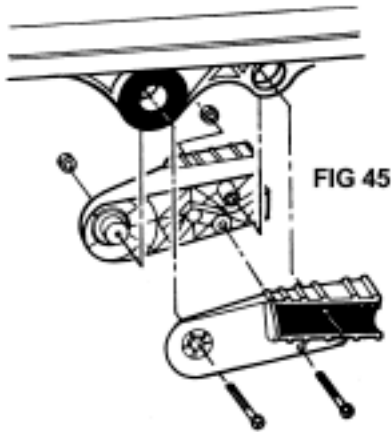

FIG 45
2. To replace front A.V. mount rubber – Remove 2 screws A & B, split handle housing, replace rubber mount and reverse procedure to assemble Fig 45.